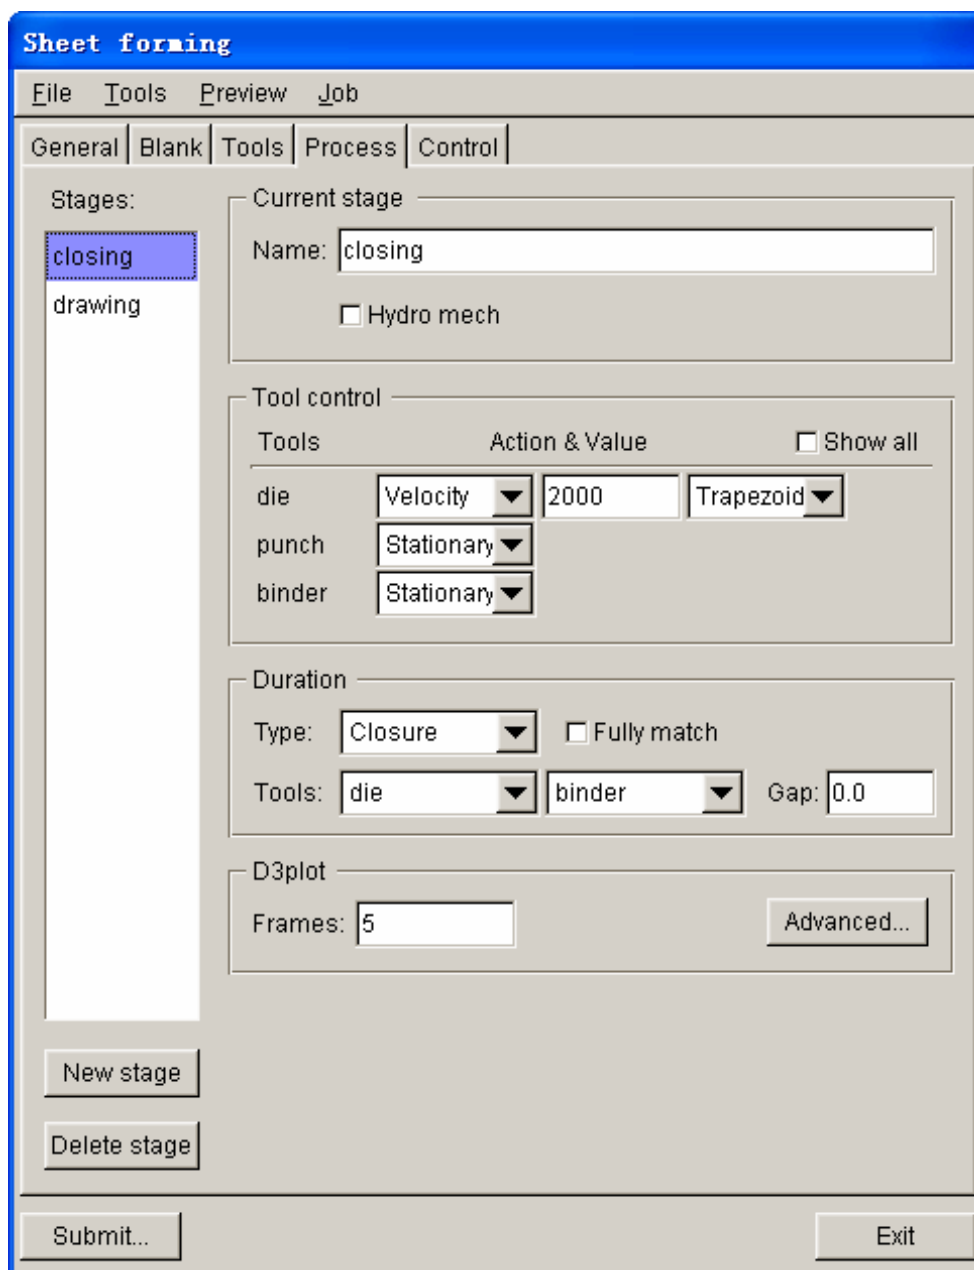

Figure 5.71 Closing process interface
1. Select **closing** process from the list located at left side of the interface as the current process. See Figure 5.71.
2. Verify the default setting of **closing** stage is similar to Figure 5.71.